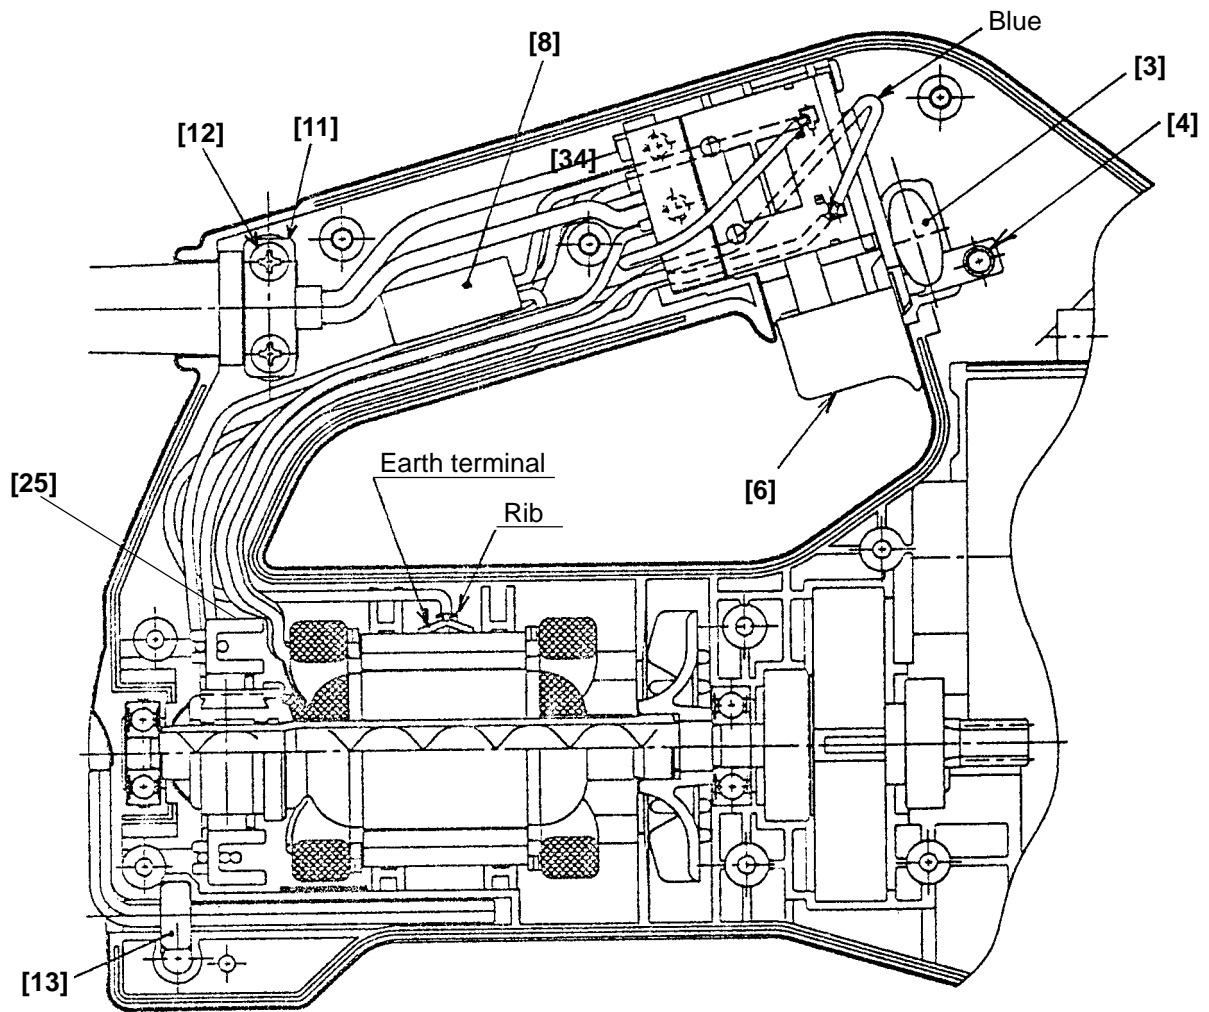
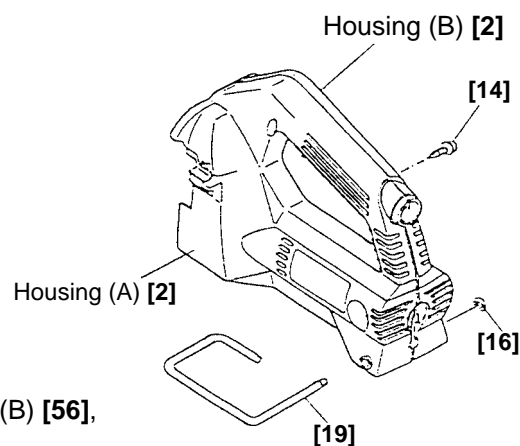

Fig. 34
Fig. 36
(c) Power supply unit (Fig. 34)
- (a) Mount the Cord **[10]** to Housing (A) **[2]** and mount the Cord Clip **[11]** facing its protrusion to the cord. Secure them with the two Tapping Screws (W/Flange) D4 x 16 **[12]**.
- (b) Push the earth terminal of the Noise Suppressor **[8]** as far as it will go along the ribs of the Stator **[22]** and Housing (A).
- (d) Arrange the Switch **[6]** and the Noise Suppressor **[8]** as shown in Fig. 34.
- (e) Mount the Spring (A) [4] to the Pushing Button (A) [3] (Fig. 34).
- (f) Mount the Wrench Holder [13] to Housing (A) [2] (Fig. 34).
- (g) Place the internal wires to the proper positions in Housing (A) [2]. Secure Housing (B) [2] with the nine Tapping Screws (W/Flange) D4 x 20 (Black) [14] being careful not to catch the internal wires.
- (h) Mount the Hook [19] in the proper direction. Mount the Retaining Ring (E-type) for D4 Shaft [16] (Fig. 36).